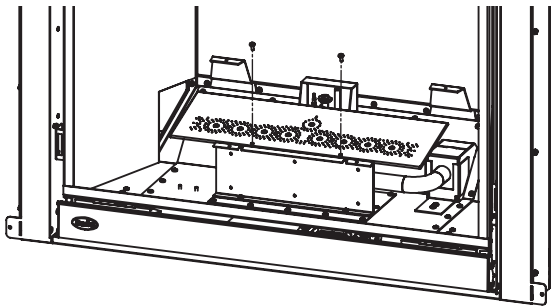

Figure 19. Removing Burner
Step 3: Unscrew the burner pan using a T20 screwdriver then rotate it clockwise and pull it out of the venturi box (Figure 19).